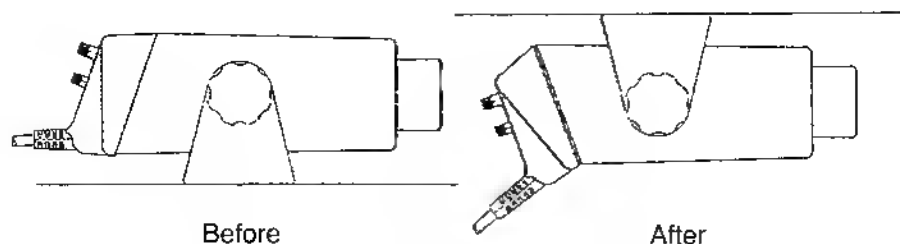

Figure 2-2. Front Panel Reversal procedure.
7. Mount the trunnion bracket on the **top of the radio**. Figure 2-2 shows the "before" and "after" results.